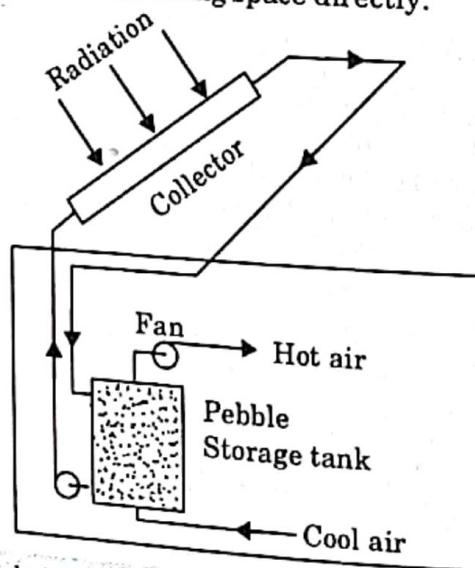

Fig. 2.22.1. Schematic diagram of active space heating by air collector.
3. When there is no sunshine or during night the cold air from rooms flow through this pack and after heating get distributed in the living rooms as shown in Fig. 2.22.1.